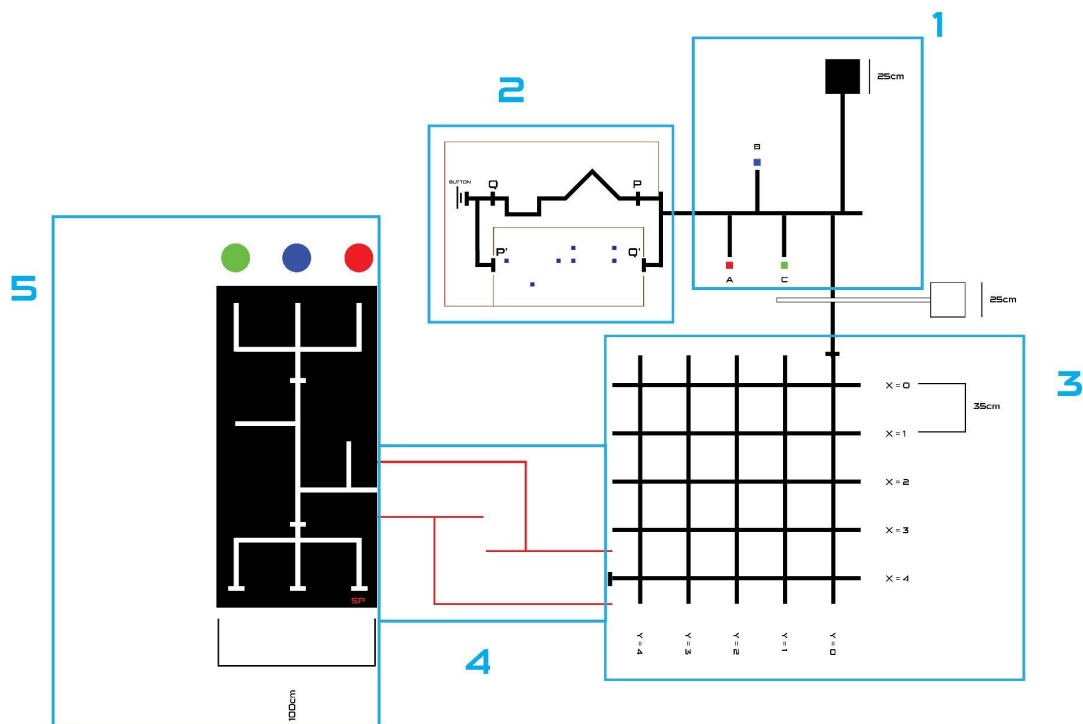
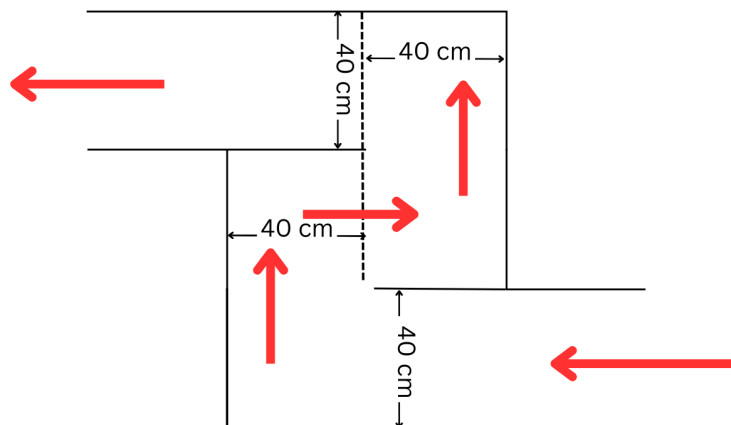

Figure 2: Overview of the arena
Figure 14 : Top view of the wall
Basically stage 1, 2, 3, and 5 are line following tasks, stage 4 is a wall follow. Stage 1 and 3 are as same as illustrated in Figure 2. Stage 2, 4 and 5 follows will be revealed at the competition.
- Refer to Figure 2 for an overview of the arena.
- Shape of the walls in stage 4 is the same as the given figure 2. The dimensions that are not provided in figure 14 can be varied.